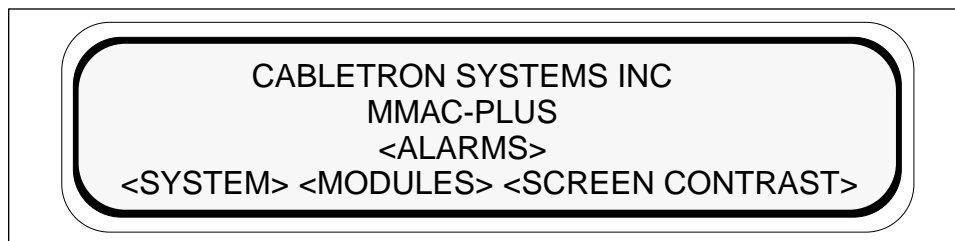

Figure 3-13. The Main Screen
The Main Screen, as shown in Figure 3-13, is the initial screen of the Interactive Mode. It allows access to all of the Interactive Mode screens. Interactive Mode screens are distinguished by the display of option fields. Option fields are designated with brackets (< >). To select an option, highlight the option field by using the arrow function keys to place the cursor on the option; then press the ENTER key.
Select the <ALARMS> option field in line 3 of the Main Screen, as shown in Figure 3-13, to access the alarm message queue. Unread alarms are present in the message queue when the ALARM LED is red.
Select the <SYSTEM> option field in line 4 of the Main Screen, as shown in Figure 3-13, to access the System Screen as shown in Figure 3-15. This screen displays information specific to the MMAC-Plus chassis. Lines 1 and 2 display the MMAC-Plus chassis Internet Protocol (IP) address and Media Access Control (MAC) address.
Select <MODULES> from the Main Screen, as shown in Figure 3-13, to display the chassis slot locations in which modules have been installed.